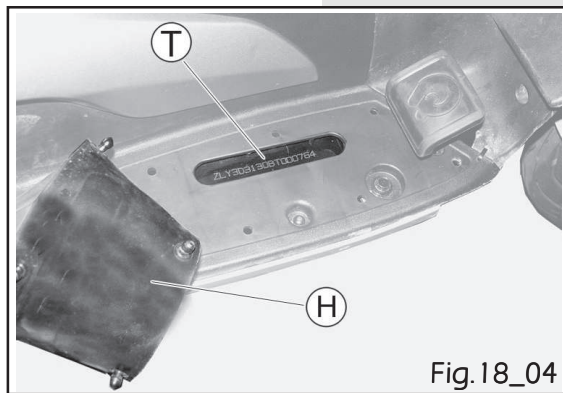

Fig.18_04
- The Vehicle Identification Number «T» (VIN) (fig. 18_4) is stamped on the frame's right hand crossbeam and it may be accessed by removing the passenger's footrest «H».